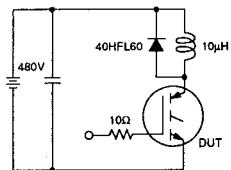

Fig 12a. Clamped Inductive Load Test Circuit
- ② $V_{CC} = 80\%$ (BV_{CES}), $V_{GE} = 20\text{V}$, $L \geq 10\text{ }\mu\text{H}$, $R_G = 10\Omega$, (See figure 12a)
③ Pulse width $\leq 80\text{ }\mu\text{s}$; duty factor $\leq 0.1\%$.④ Pulse width $\leq 5\text{ }\mu\text{s}$, single shot
⑤ K/W equivalent to °C/W